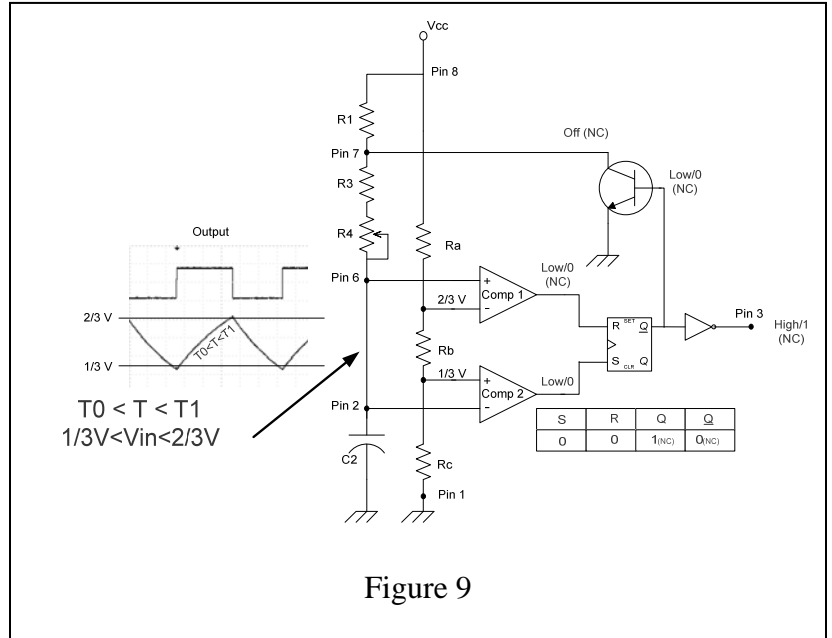

Figure 9
Time $T_0 < T < T_1$. Let's move on to the next time interval in figure 9. As C2 charges and the voltage rises, we are looking at the time interval when the voltage across C2 is between $1/3V_{cc}$ and $2/3V_{cc}$. That voltage, as applied to the non-inverting input of Comp1 is still less than the $2/3V_{cc}$ voltage applied to the inverting input, therefore the output of Comp1 remains unchanged at low (0). However, the applied voltage to the inverting input of Comp2 is now above the $1/3V_{cc}$ voltage applied to the non-inverting input of that comparator and the output of Comp2 snaps to low. The R and S inputs to the Flip-Flop are now both low, and from the truth table, the output of the flip-flop will remain unchanged from the